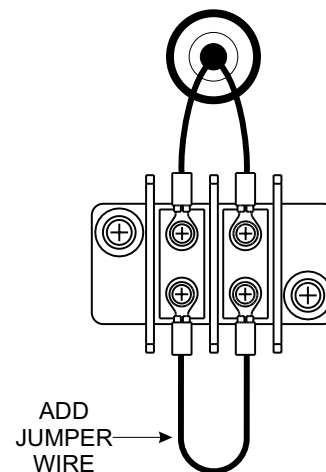

Figure 77. Auto-Start Contacts (Jumpered)
2. Verify that the **auto-start contacts** on all generators are jumpered as shown in Figure 77. If the auto-start contacts are not jumpered, add jumper wire.
10. Remove the auto-start jumper wire (Figure 77).